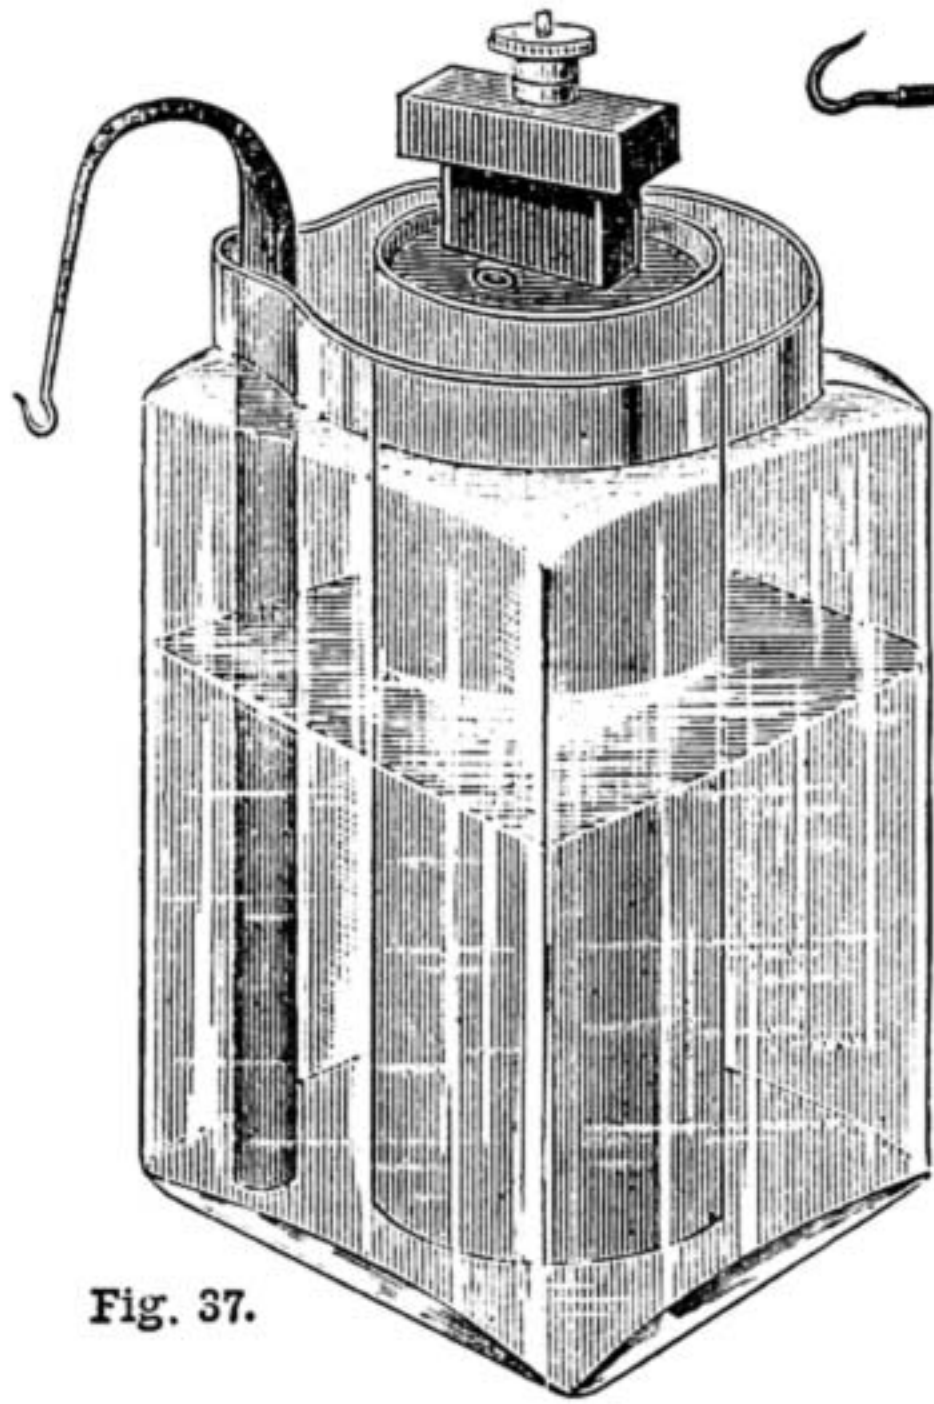
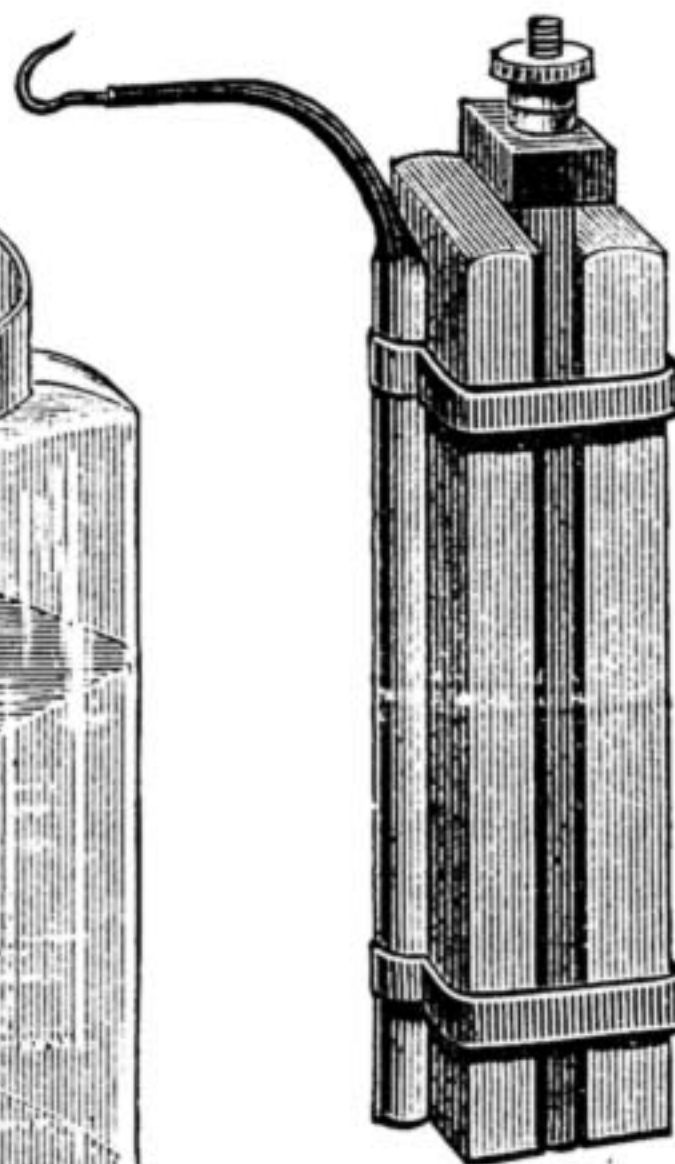

Fig. 37.
Fig. 38.
The Leclanché Battery.—This battery, invented by the late M. Georges Leclanché, has stood the test of many years' practice as the best battery for ringing electric bells. Each composite cell is made up of (1) a glass outer containing cell charged with a solution of sal-ammoniac, into which dips a rod of zinc to form the positive element; (2) a porous inner cell charged with a mixture of broken carbon and small lumps of manganese peroxide, surrounding a cube, or a plate of carbon, to form the negative element. The whole arrangement is shown at Fig. 37. The outer cell may be of any other ware, such as china, porcelain, stoneware, or glazed earthenware; and the pot may be of other shapes than that shown in the sketch. It is charged with a half-saturated solution of sal-ammoniac—that is to say, sal-ammoniac (ammonia muriate) is dissolved in warm rain water until the water is saturated; then it is diluted with an equal bulk of rain water. Ordinary well, spring, river, or pump water may be used; but rain water is best. The zinc rod is cast with a stout piece of copper wire projecting from its upper part to form a connection with the carbon of the next cell. This wire is coated with warm gutta-percha, or with tarred tape, from the zinc to within two inches of its other end, which is left bare and clean to make connection with the binding screw of the carbon. The whole, together with an inch of the zinc rod at the top, is coated with Brunswick black. The inner cell is made of white porous earthenware. A prepared strip of carbon is set upright in the middle of the cell, and then closely packed with a mixture of equal parts by bulk of gas carbon, broken to the size of peas, and lump peroxide of manganese of the same size, all dust being sifted out of the mixture. The surface of this charge is covered with a thin coat of pitch to keep it in position, and two holes are made in this pitch seal after it has cooled, to allow the gases formed whilst working to freely escape. The strip of carbon is selected just wide enough to slip easily into the cell, and long enough to stand with its upper part about one inch above the top of the cell. This part is soaked in hot melted paraffin for some time; then allowed to cool. When cool, a few holes are drilled laterally through the paraffined top; a hole is drilled in the top near the middle to receive the end of a tang of a binding screw; the top part is inverted in a mould; and melted lead is poured in to form a head having a good contact with the carbon, and to hold the binding screw. The head, and a strip of carbon just below it, are painted with Brunswick black, and this, together with the paraffin, prevents the lead head being corroded away with the ammonia fumes formed in working the battery. The cells are made in various sizes, but most vendors sell three stock sizes, numbered respectively 1, 2, and 3. All do not agree in the sizes apportioned to the several numbers, but the following may be taken as generally correct:—
The Agglomerate Battery.—This is only a new form of the Leclanché. The porous cell is dispensed with, and the manganese and carbon mixture is made into agglomerate blocks by machinery, under enormous pressure. The usual capped carbon plate is enclosed between two of such blocks, which are kept pressed together by crossed rubber bands, the loops of the bands serving as a holder for the zinc rod, as shown at Fig. 38. When these were first introduced, they were thought to be superior to the old form of Leclanché, but it is now found that their sole recommendation lies in offering less resistance to the current. In practice they are said to be more troublesome than the old form.
Fig. 37.—Leclanché Cell. Fig. 38.—Agglomerate Block. Fig. 39.—Gassner Dry Cell. Fig. 40.—Three Gassner Cells connected in Series and placed in Box—A, Wire from Bell; B, Wire to Bell. Fig. 41.—Diagram showing how to connect Branch Wires from Burglar Alarm Contacts to Main-Line Wires of Electric Bell—A A, Main-Line Wire to Bell; B B, Main-Line Wire from Battery; C, Door Trigger; D, Door Post Contact; E, Special Line to Indicator; F, Door-Mat Contact. Fig. 42.—Sketch showing how to Strip Covering from Electric Bell Wires preparatory to connecting Wires together. Fig. 43.—Sketch showing how to Twist End of Branch Wire round a Main-Line Wire to form a Junction with it.